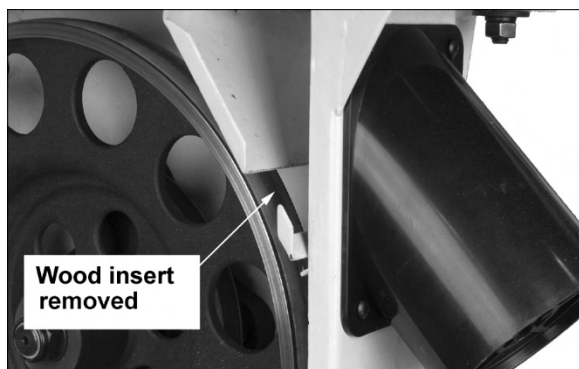

Figure 5-8
7. Remove wood insert (Figure 5-8), if installed.